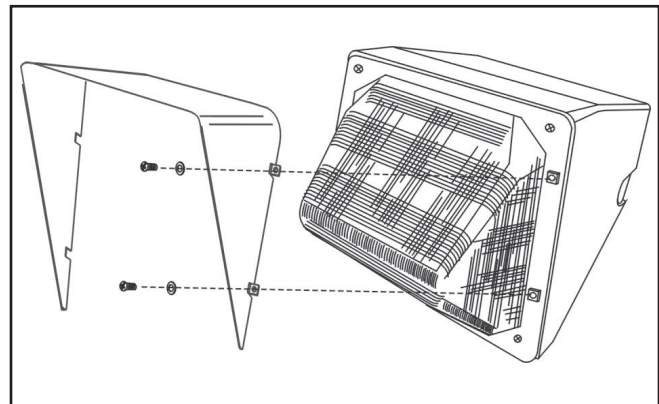

Figure 2.
2. Use the enclosed screws and washers to mount the visor according to (Figure 2.)